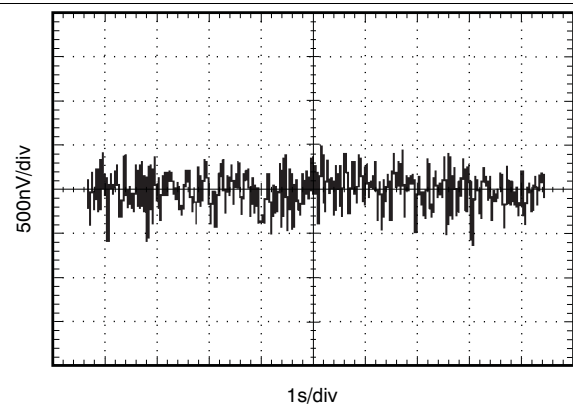

Figure 16. 0.1-Hz to 10-Hz Noise
0.1-Hz to 10-Hz Noise	Figure 16